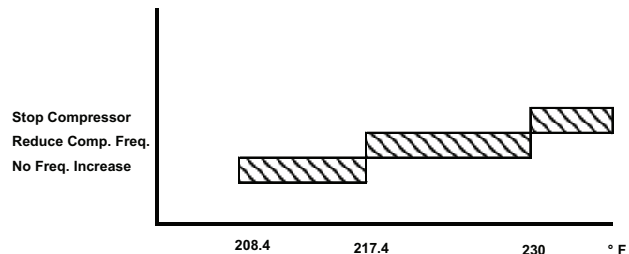

Fig. 15 – Compressor Gas Discharge Temperature Protection
1. Completely tighten flare nuts A, B, C, D, connect manifold gage charge hose to a charge port of the low side service valve. (See Fig. 15.)